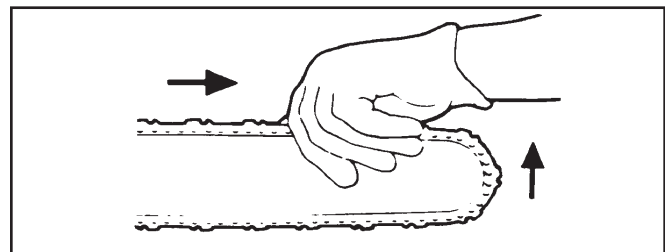

Figure 10. Pulling the Chain
3. Using the saw bar adjustment screw (Item 68, Parts Illustration), tighten the chain until you are still able to rotate it one full revolution by hand (Figure 10).